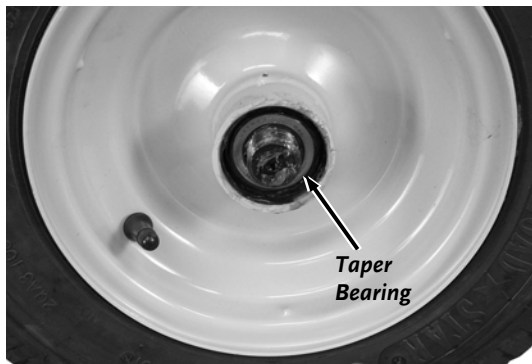

Figure 32
5. Pull the Wheel assembly and Taper Bearing from The Axle (**Figure 32**).